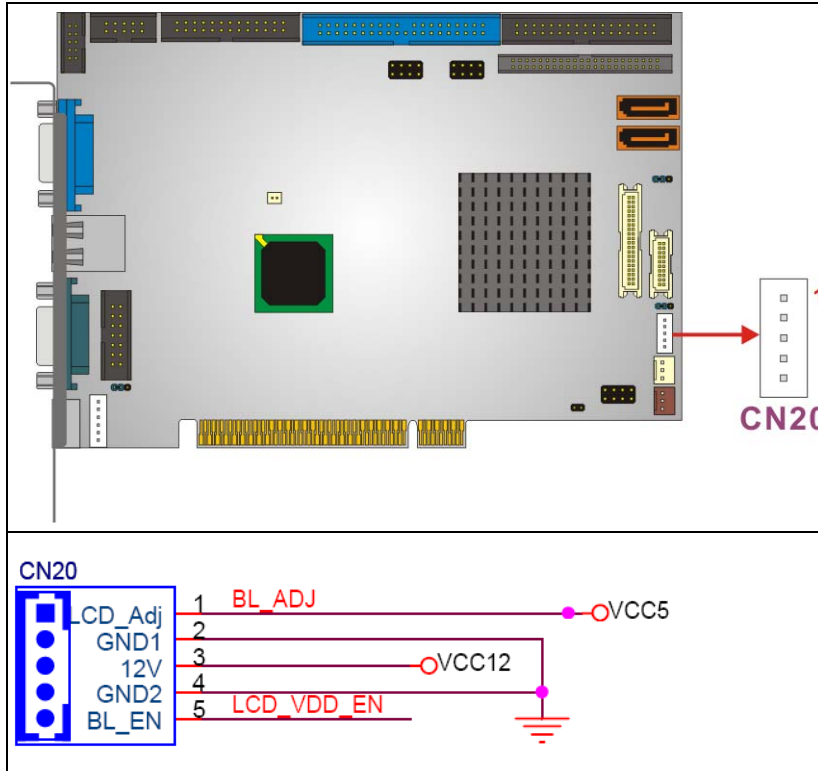

Figure 3-12: Inverter Connector Locations
- CN Location:** See Figure 3-12